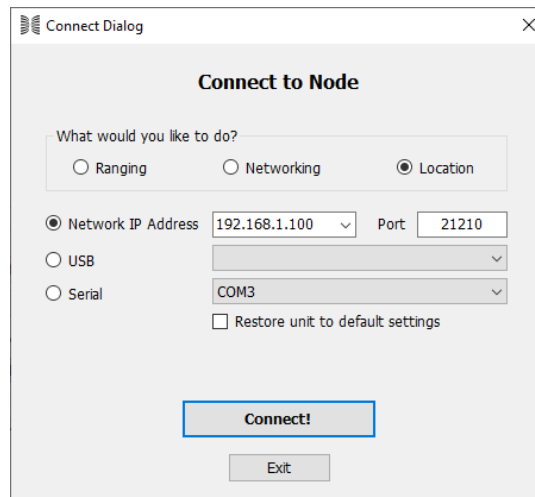

Fig. 6: RangeNet GUI connect screen prior to USB hookup
1. Double-click on the RangeNet icon. The screen shown below in **Figure 6** will appear.